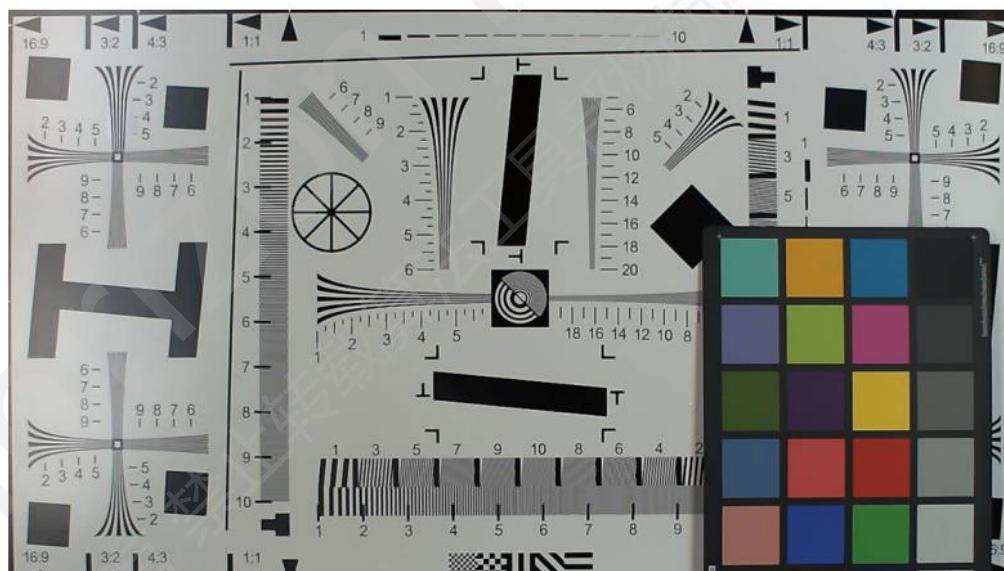

Figure 3.15-10 Example of tuned false color correction.
11. Now decrease FC\_alias\_slope to the point where aliasing is removed and previously visible ColorChecker artifacts are no more, as demonstrated in Figure 3.15-10. Typical values are between 60 and 100.